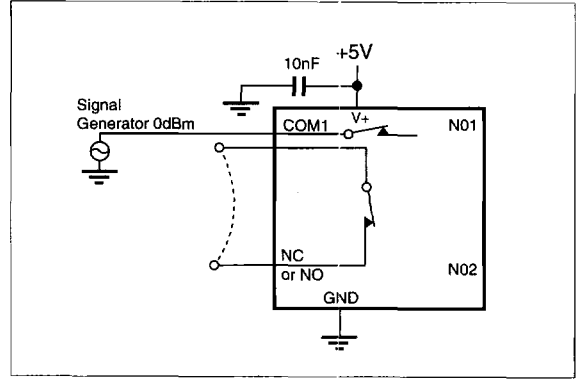

Figure 4. Crosstalk
8. Between any two switches. See figure 4.